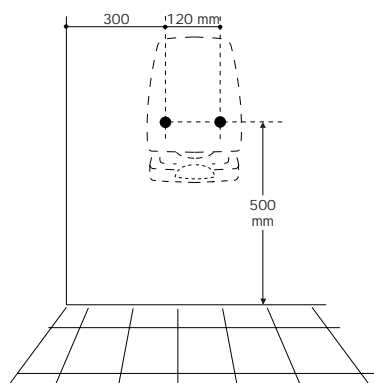

fig. 2
- Drill the holes in the wall, noting the minimum distances indicated in Fig. 2.